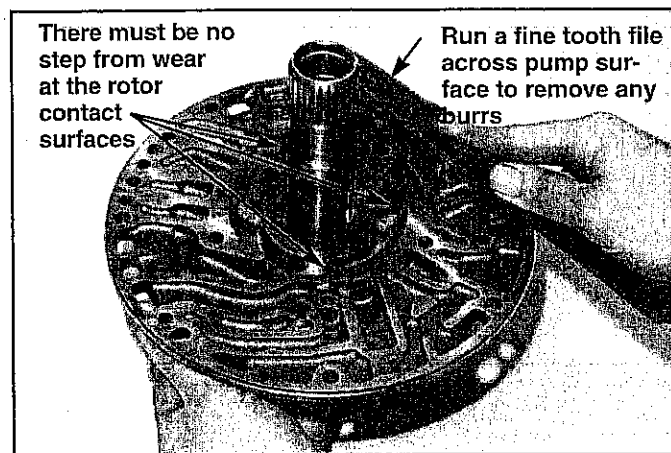

FIGURE 34
33) Some scratch marks are normal. The rotor face of the pump cover should have no step at any point where rotors ride. (See Fig. 34) The rotors themselves should have clean faces and the outer edge of large rotor should show no metal transfer or wear.